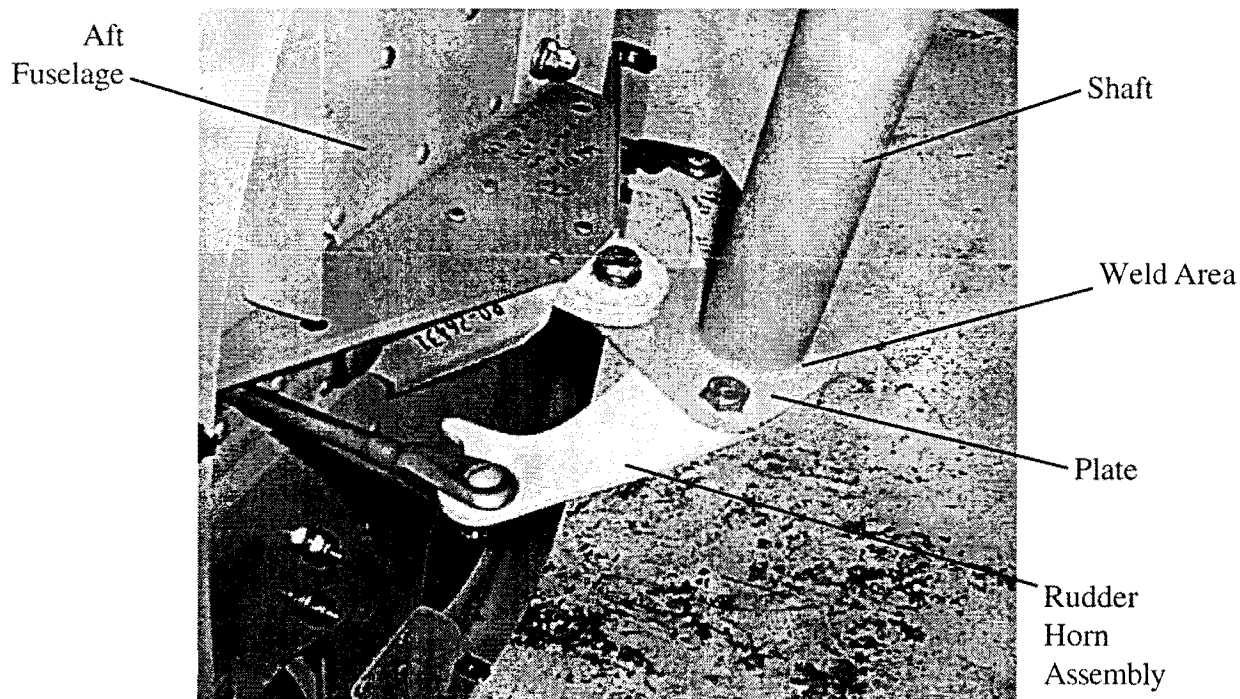

Figure 1
2. Visually inspect the weld area on the Rudder Horn Assembly as shown in Figure 1. The weld attaching the Shaft to the Plate should go around the shaft a full 360°.